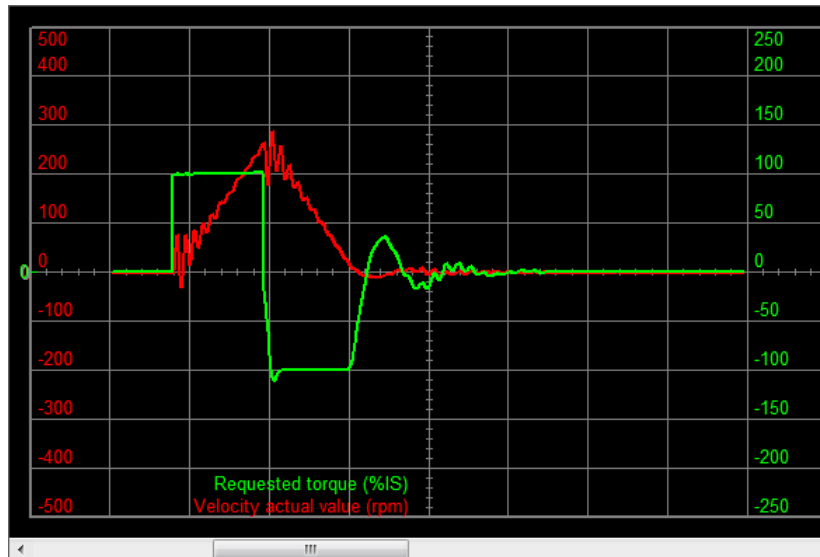

Figure 20.9. Example of a correct estimation of the inertia moment with vibrations.
- Otherwise, if the stop presents a behaviour similar to the one that's reported in Figure 20.9, so with little and immediatly damped vibrations, the system is however stable and it's better to improve its stability (see the points 3. System stabilisation and 4. Filters of the *Detailed Tuning Guide*).